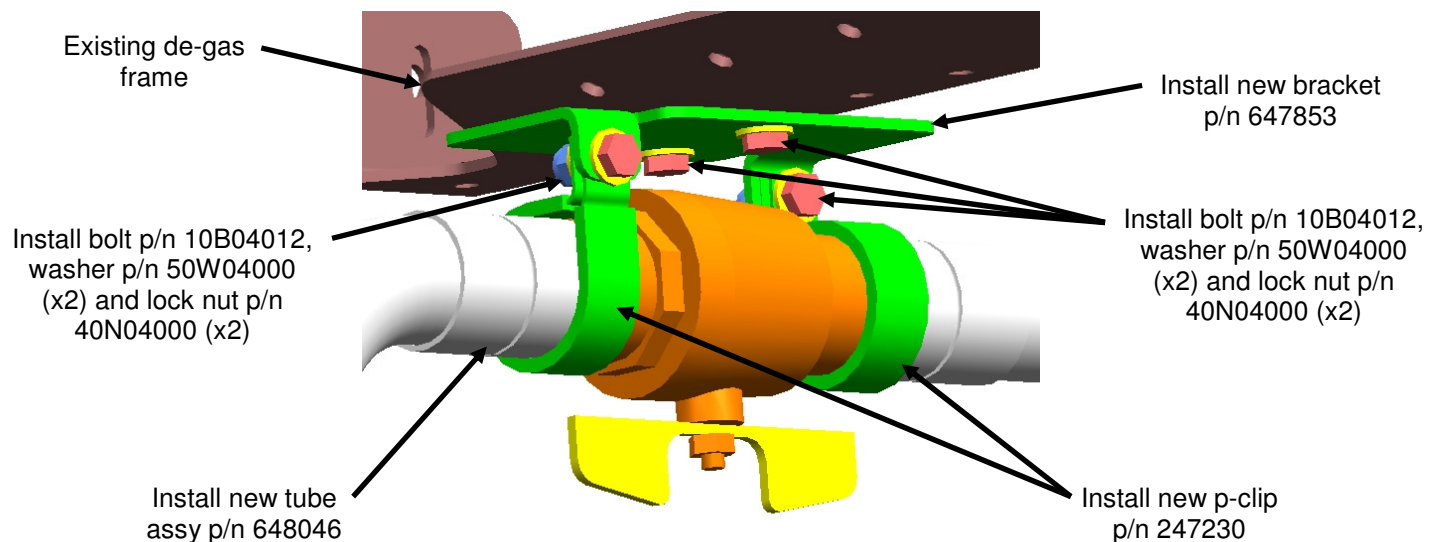

Figure 4: Tube Assembly Installation
12. Using the same mounting holes as the removed tube clamp from Step 6 install the new tube support bracket p/n 647853 to the de-gas support bracket using new bolts p/n 10B04012 (x2), washers p/n 50W04000 (x4) and lock nuts p/n 40N04000 (x2), torque hardware to 12 ft*lbs dry. See Figure 4.
13. Loosely install the new tube assy p/n 648046 to the newly installed bracket from Step 12 using p-clips p/n 247230 (x2), washer p/n 50W04000 (x4) and lock nuts p/n 40N04000 (x2). See Figure 4.